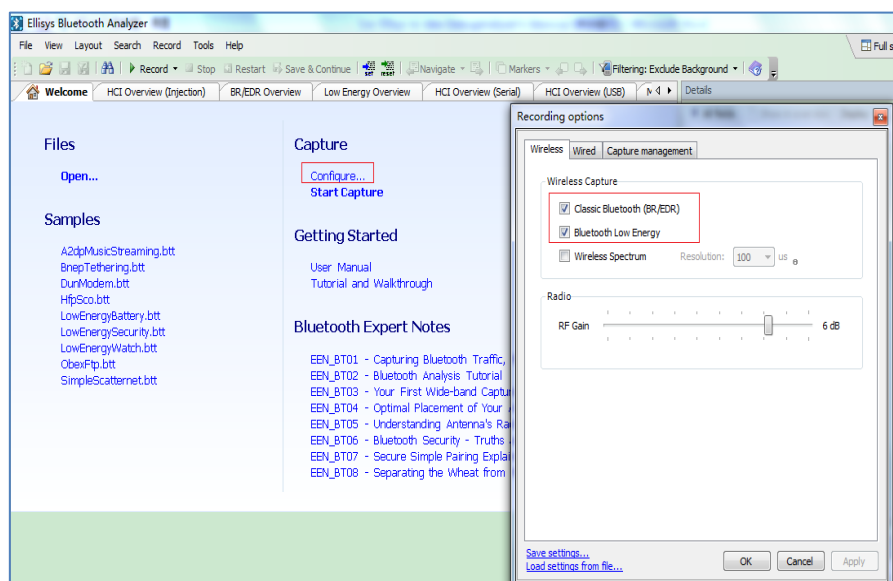

Figure 7-2 Ellisys Configure
2. As shown in Figure 7-2, click “Configure ...” to confirm that the “Classic Bluetooth” and “Bluetooth Low Energy” options are selected for the first time.